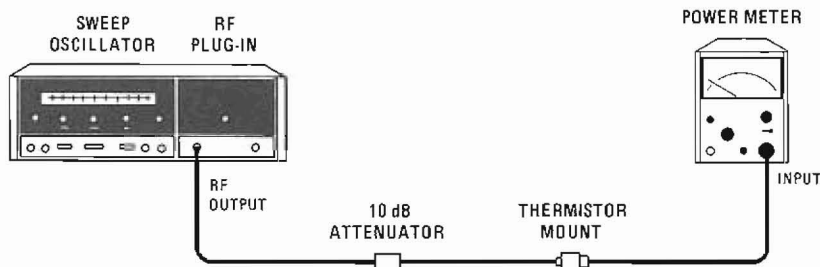

Figure 5-4. Minimum and Maximum Power Adjustment Test Setup
- a. Connect equipment as shown in Figure 5-4.